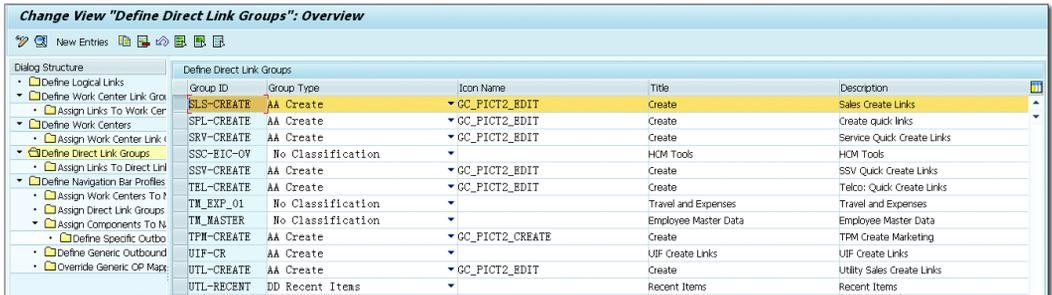

Figure 8.38 Defining Direct Link Groups
8. Create the direct link group. Figure 8.38 shows an example of SLS-CREATE – SALES CREATE LINKS.